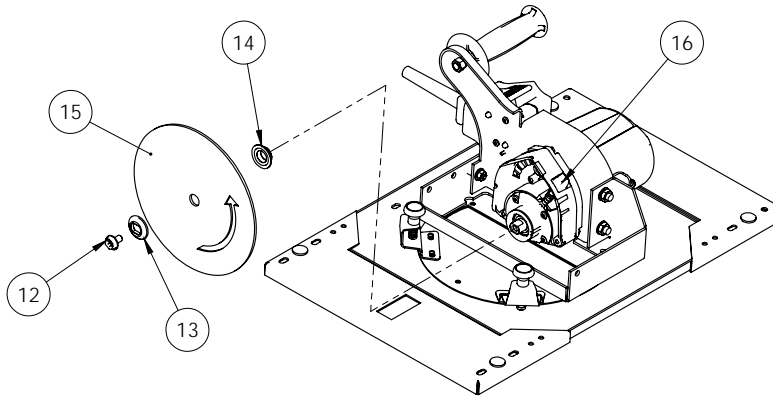

Figure 15: Installing a Saw Blade
3. Tighten the carriage lock. While holding the spindle lock “in” (Fig. 15, #16) (located on the bottom side of the motor) **remove the blade bolt (#12)** from the saw motor spindle by turning it **counterclockwise**. Remove the outer blade flange (#13), but leave the inner blade flange (#14) on the spindle.
4. Install the blade with the arrow pointing counterclockwise as shown Fig. 15, #15.